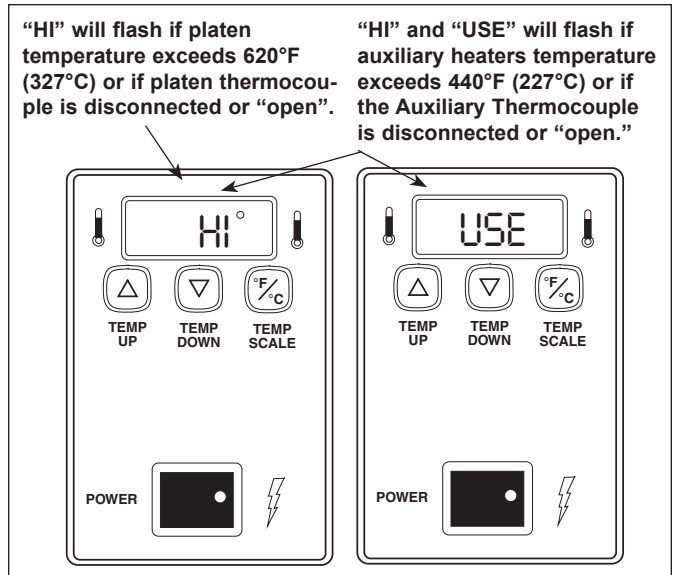

Figure 7. “HI” Fault Message
- If the Platen Heater temperature exceeds 620°F (327°C) the display will flash “HI” and the heating circuit will turn off (Figure 7). After the toaster has cooled down, the unit must be turned off, then back on to restart. If this condition repeats, contact your Authorized Service Agency.
- If the Auxiliary Heating temperature exceeds 420°F (215°C) the display will alternately flash “HI” and “USE” (Figure 7). After the toaster has cooled down, the unit must be turned off, then back on to restart. If this condition repeats, contact your Authorized Service Agency.